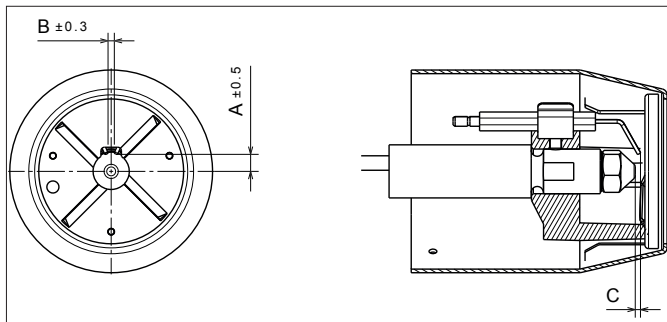

Figure 10-3: Ignition electrode settings
9. Check/adjust electrode setting. Refer to Figure 10-3.